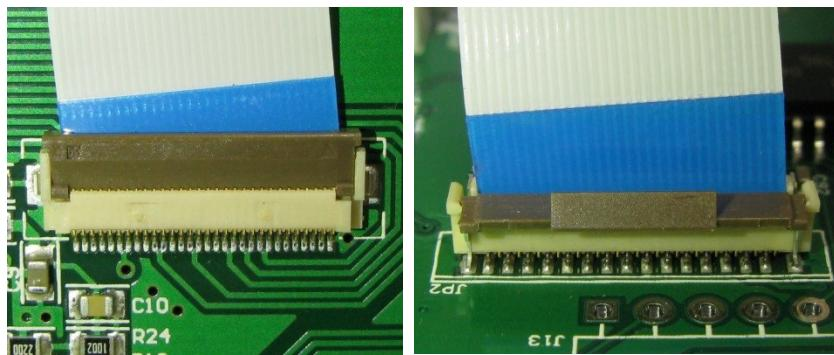

Fig. 25 Incorrect ribbon cable connection for horizontal and vertical slots
- incorrect ribbon cable connection is shown in Fig. 25.